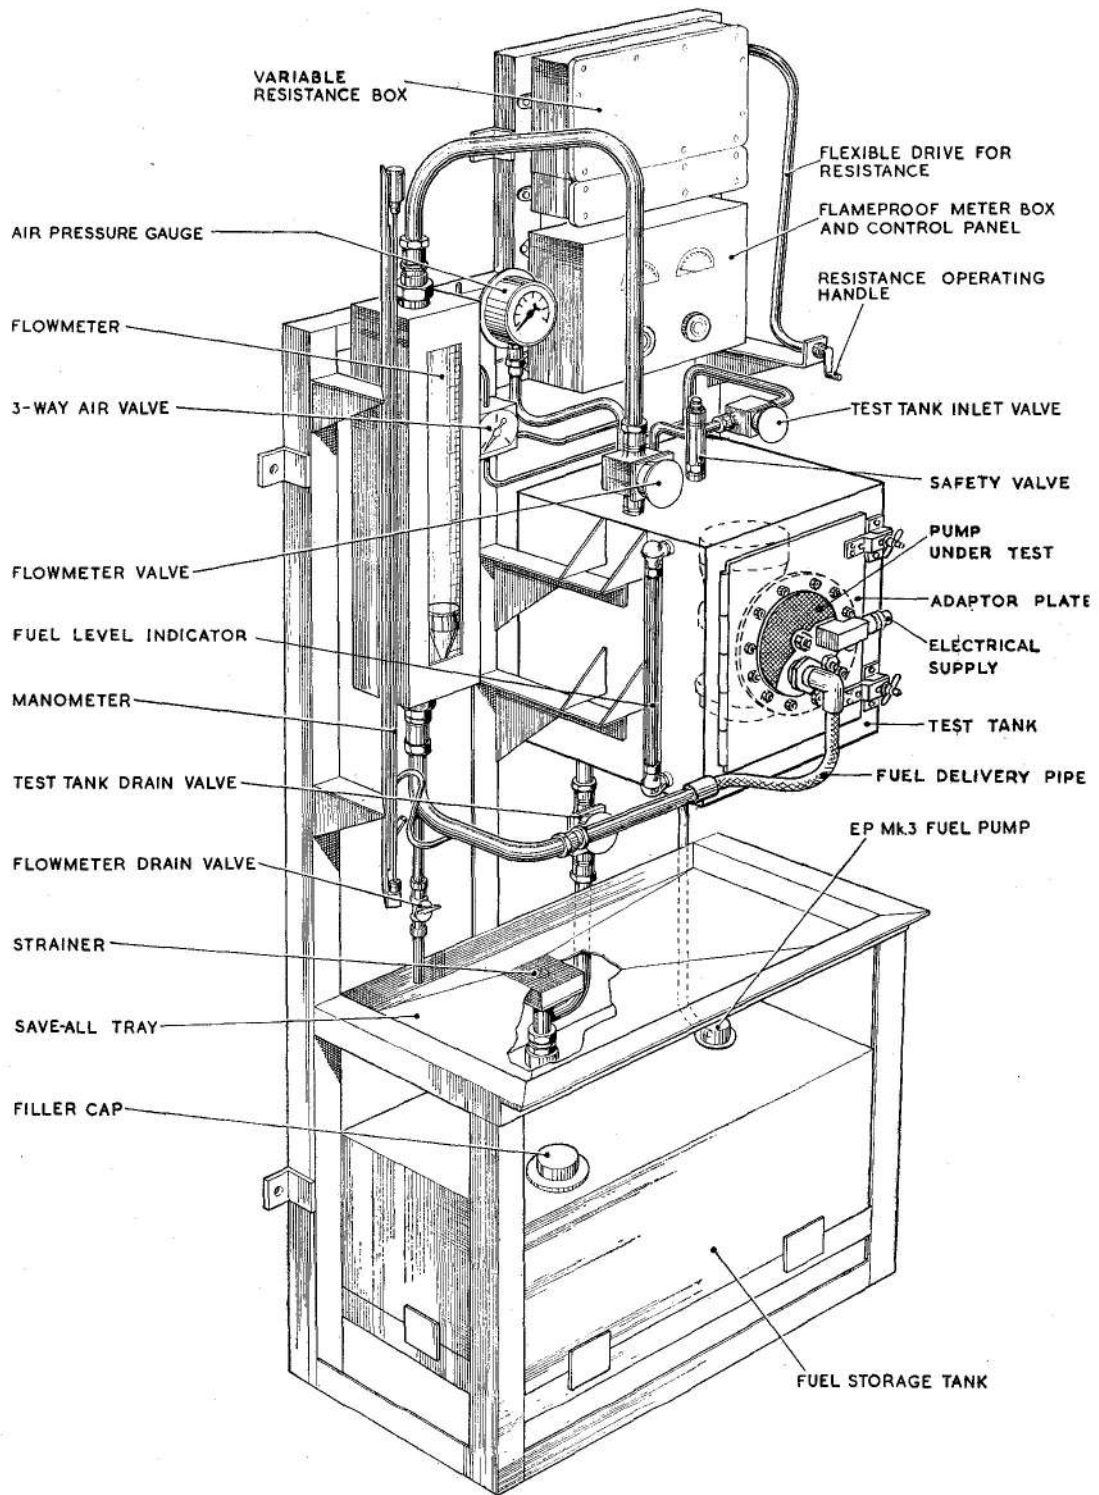

Fig. 4. Typical test rig
30. A test rig is being developed on the lines of that shown in *fig. 4*. Whilst the ultimate design may differ in details, it will be basically similar and will be described in A.P.4343S, Vol. 1, Sect. 16 when finalized.